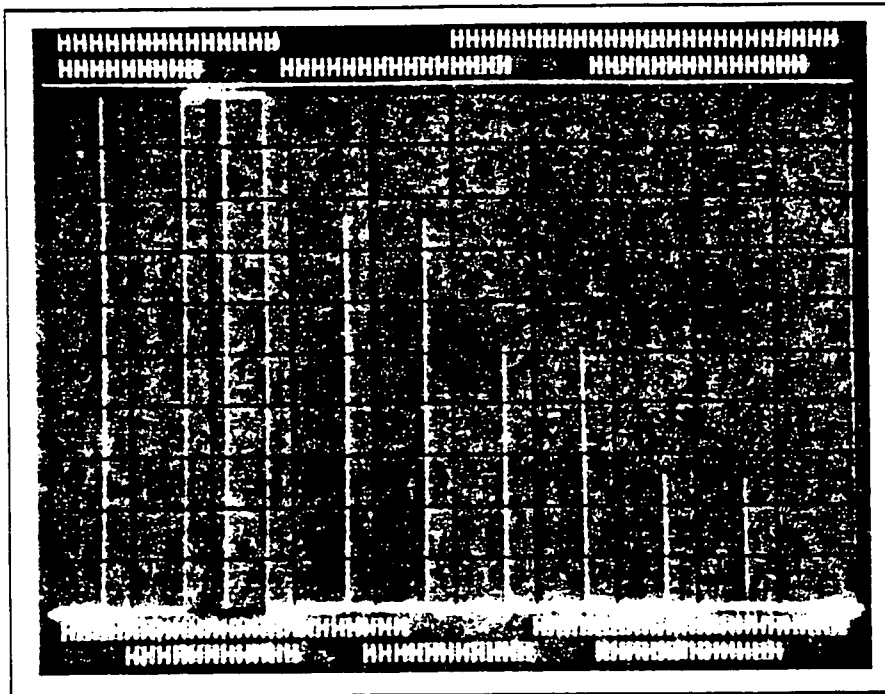

Figure 1. Display Test Pattern.
- D. **CRT Display (Group 2).** For an improper display, the display circuits (A63, 64, 65, 67) can be checked by moving the test jumper (A63,J3) to "T." The display should be the test pattern of Figure 1.